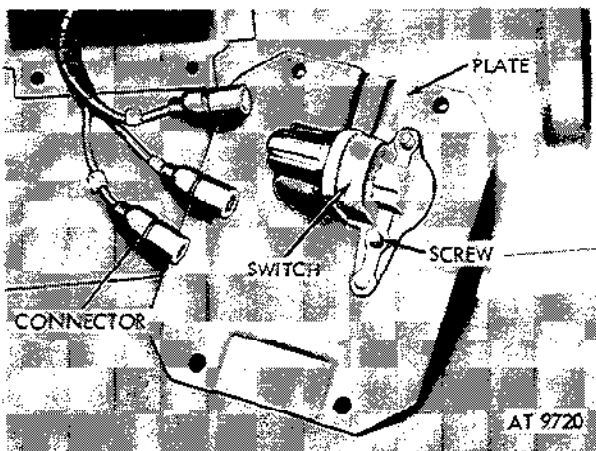

Figure 2-280. Remove dimmer foot switch.
(2) Separate the connectors at switch (fig. 2-280).
(3) Remove three screws and lockwashers securing dimmer switch to mounting plate and remove switch (fig. 2-280).